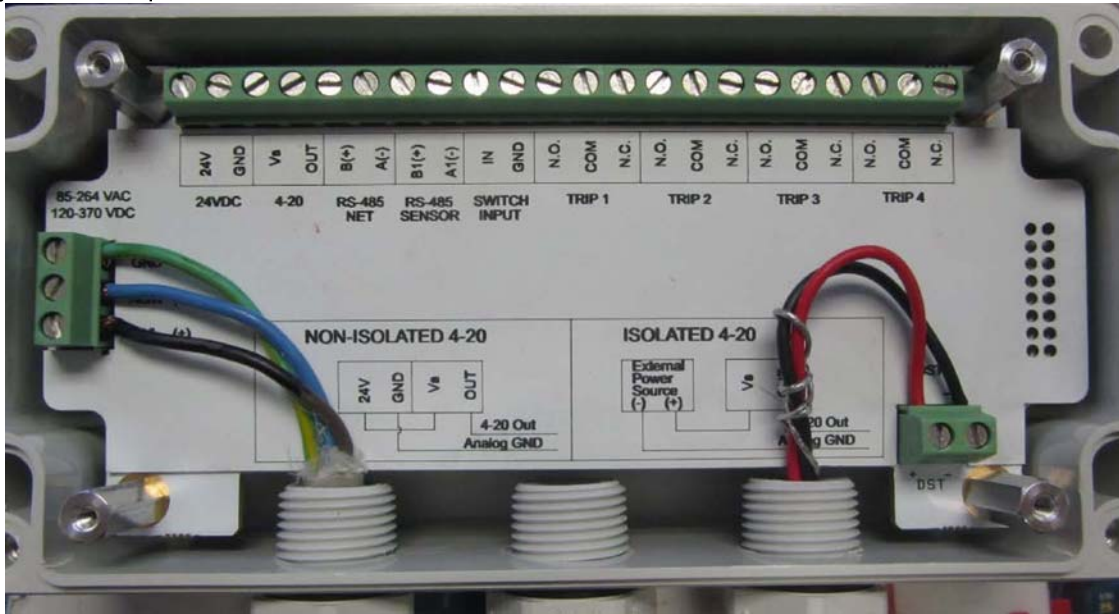

Figure 7.9
7.10.1 Install the PE bulkhead fitting per section 6.1 for sensors with male pipe threads. Install the sensor into the fitting with Teflon® pipe sealant. Remove the display unit box cover. Attach the display unit to the PE mounting plates provided on the tank with 4 ea. #10 S.S. Self-tapping screws. Attach the sensor cable to the control box with small strain relief and connect wires per label in the box. Please see Figure 7.9 below for sensor wire attachment information. Attach the unit to 110 VAC and test unit. The display unit is preprogrammed for the tank ordered. Refer to literature shipped with unit to answer any additional questions.